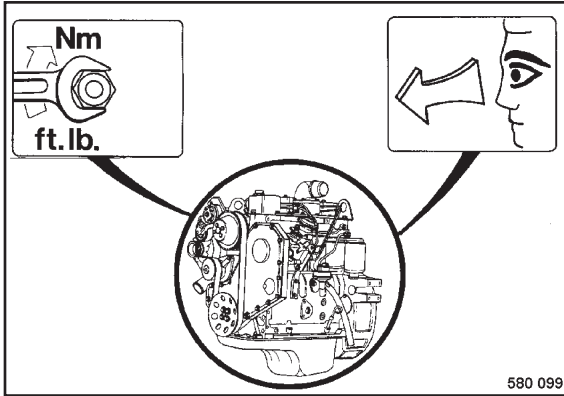

Fig. 137
- Check the fastening of air intake and exhaust tube (Fig. 137) on the cylinder heads for tight fit.